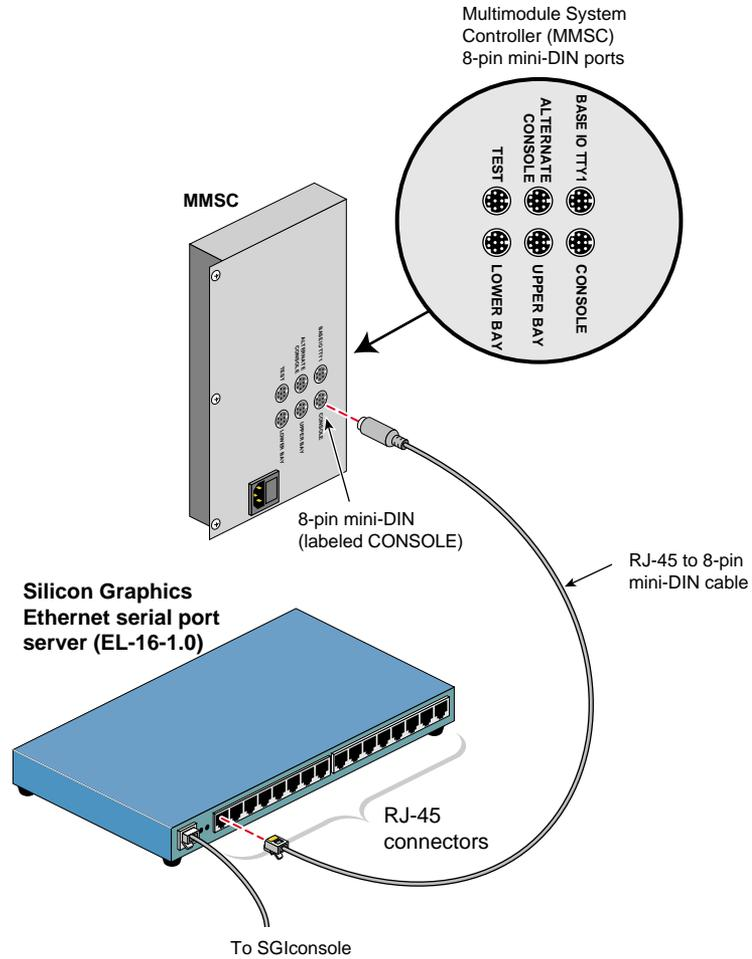

Figure 2-24 Connecting the Serial Port Server to the MMSC 8-pin Console Port
5. Connect the RJ-45 connector end of the RJ-45 to 8-pin mini-DIN twisted-pair serial cable to one of the RJ-45 serial jacks on the Silicon Graphics EL serial port server. Then connect the 8-pin mini-DIN end of the cable to the 8-pin connector on the MMSC labeled "Console." See Figure 2-24.